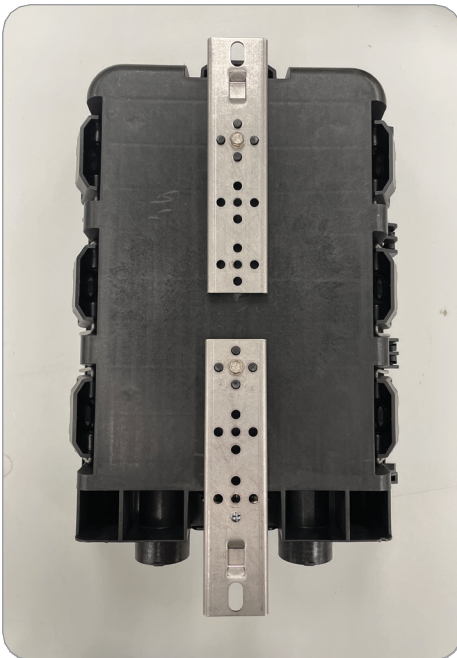

Figure 78
1. Attach the mounting brackets to the back of the terminal. To maximize space in the pedestal, use the top mounting position for both brackets. (Figure 78)